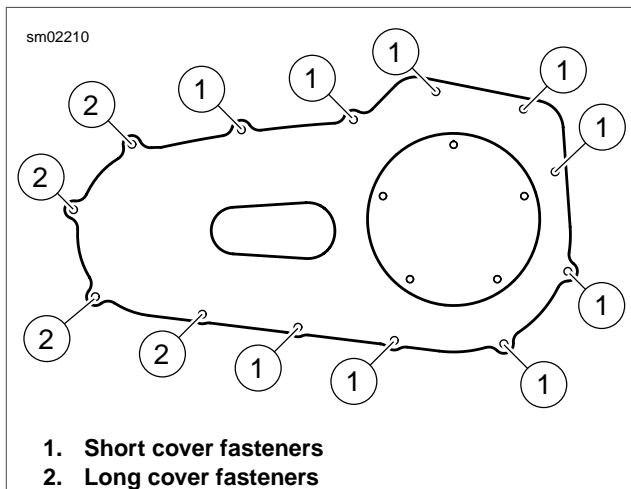

Figure 6-1. Primary Chaincase Cover
3. See Figure 6-1. When lubricant has drained, remove short (1) and long (2) cover fasteners and cover.
4. See Figure 6-1. Install short (1) and long (2) primary cover fasteners in positions shown. Snug fasteners.